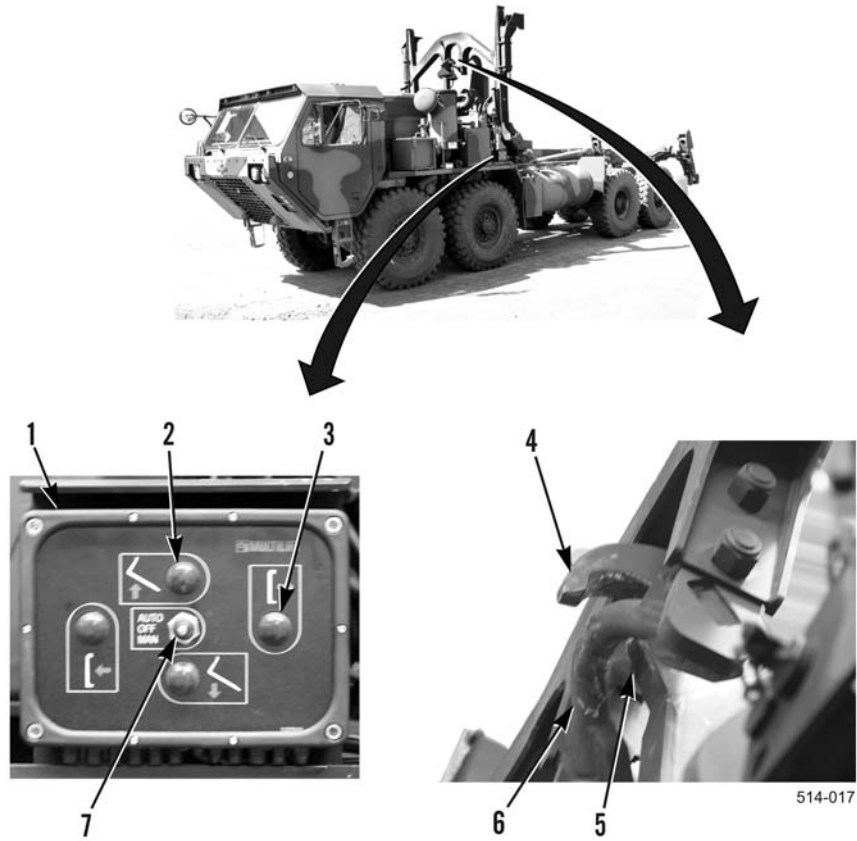

Figure 2. Bail Bar Between Hook Nose and Thumb.
4. At stowage control panel (Figure 2, Item 1), set toggle switch (Figure 2, Item 7) to MAN position.
5. Press and hold HOOK UP button (Figure 2, Item 2) until hook raises 4 in. (10 cm). Release HOOK UP button.
6. Press and hold UNSTOW button (Figure 2, Item 3) until bail bar (Figure 2, Item 6) is between hook nose (Figure 2, Item 4) and hook thumb (Figure 2, Item 5). Release UNSTOW button.